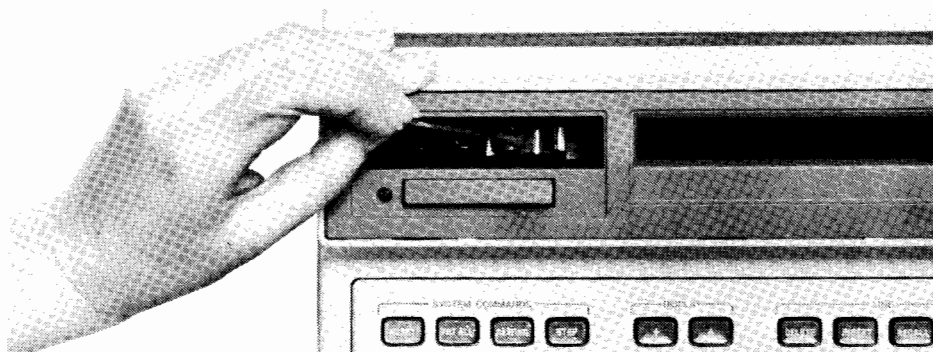

Figure 1-6 Cleaning the Tape Head
- Clean the tape head with a cotton swab that has been dampened with head cleaning solution (see Figure 1-6).